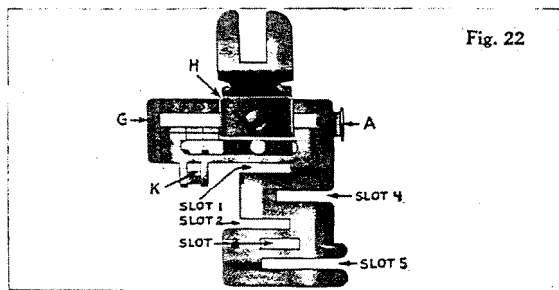

Fig. 22
The numbers 2 to 6 inclusive stamped on the back edge of the sliding guide (G) (Fig. 22) represent the width of tuck in eighths of an inch. After folding the material for the first tuck, introduce the folded edge into the guide slot which is nearest the needle. When the left hand edge of the friction spring (H) coincides with the number 2 on the scale a $\frac{1}{4}$ -inch tuck results.
By moving lug "A" draw the edgestitching portion of attachment toward the right and set braiding guide "K" directly in front of the needle so that needle pierces the center of trimming as it is being stitched. Enter the braid into the hole K (Fig. 22). The design to be braided should be plainly marked or stamped on the top or right side of fabric. Stitch along this design, being sure that the scutache braid is feeding freely into the hole K without twisting. To turn a corner, stop the machine with the needle down through the braid in the exact corner of the design, raise the presser bar just enough to permit the turning of the fabric in the desired direction, lower the presser bar and proceed as before.